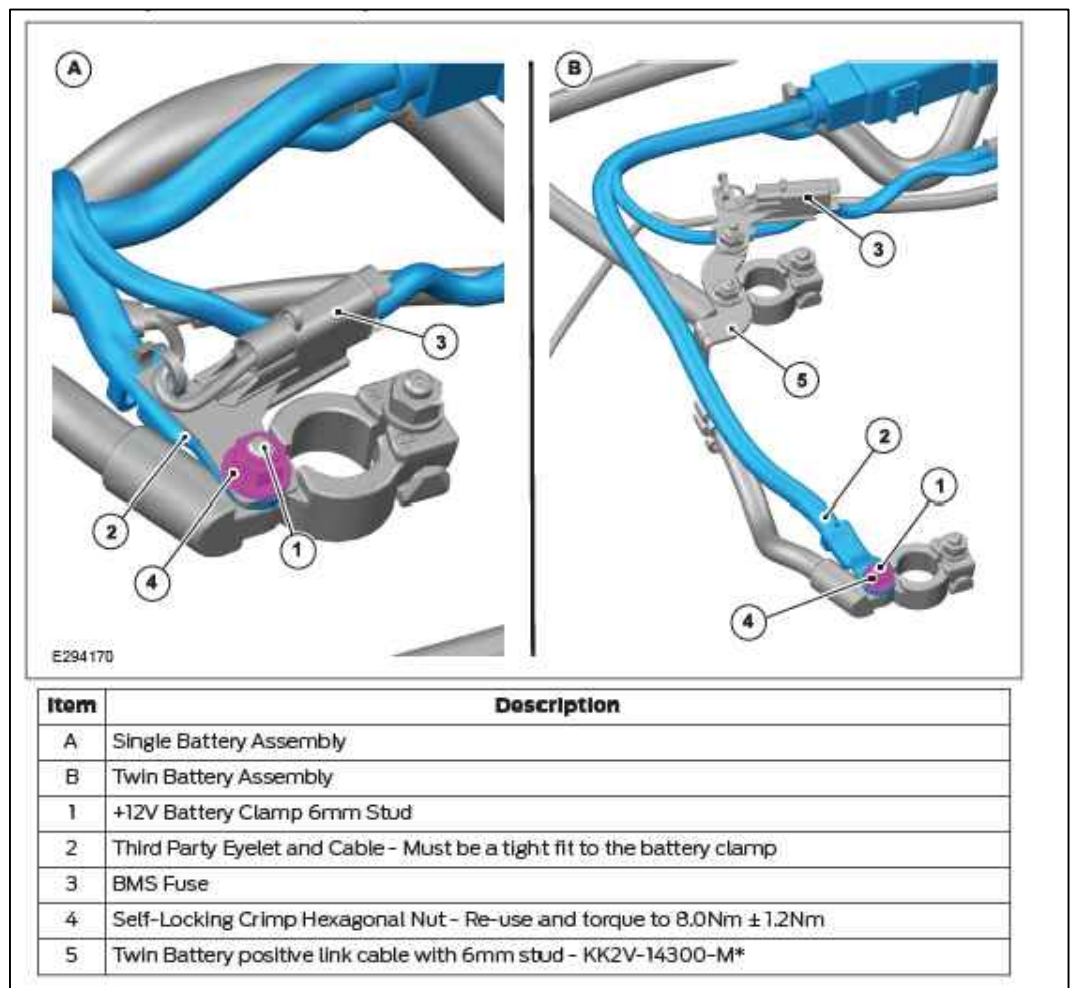

Figure 13: Battery diagram from 2020 Ford Transit Body and Equipment Mounting Manual (BEMM).
15. **Connect** the positive(+) lead to the M6 stud on the positive battery clamp. Reuse the M6 lock nut, when possible (Figure 13).